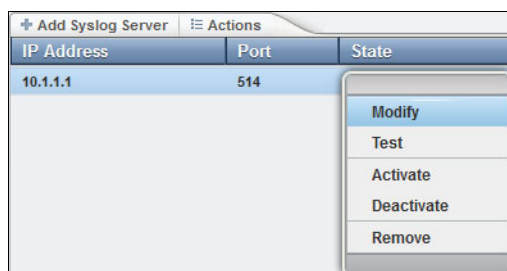

Figure 11-100 Notifications: Syslog Server Options
8. After the required syslog servers are created, right-clicking a syslog server entry allows you to **Modify**, **Test**, **Activate**, **Deactivate**, and **Remove** the selected syslog server as shown in Figure 11-100.